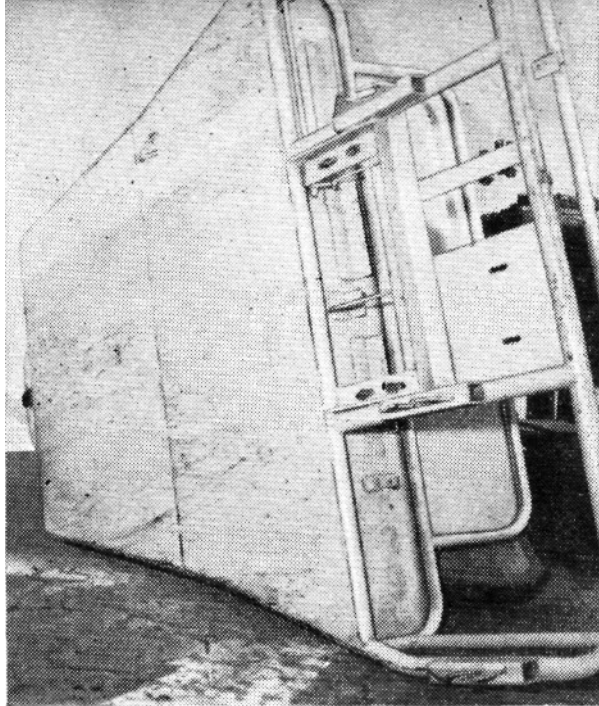

FIG. 9: Weld 16-gauge-steel floor to frame bottom. Install crosswise so that scrap pieces can be used.
**Floor Pan.** Fabricate the floor pan from standard-width 16-gauge steel. Run the strips *across* the bottom of the frame (Fig. 9), weld the seams and weld the edges to the bottom of the frame's tubing. By running the floor pan across instead of lengthwise you can get away with using narrower scrap pieces and avoid having to buy extra-wide sheet steel.